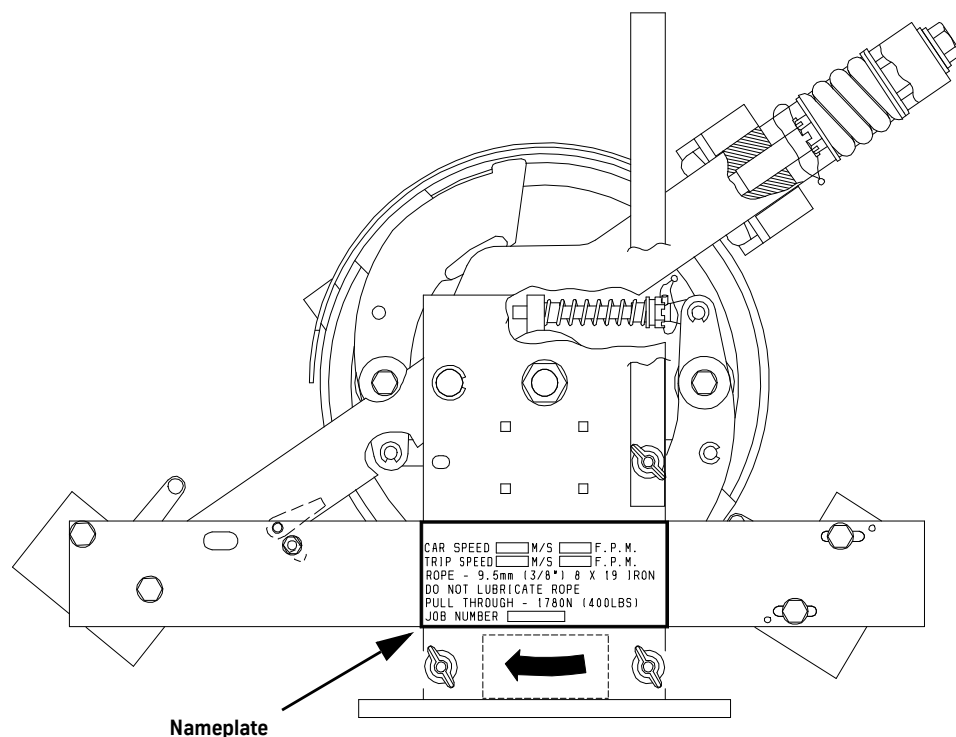

Figure 1 - Governor Nameplate
1. Check the nameplate to ensure that the governor is designed for a speed range corresponding to the job site specifications. See Figure 1.
8. Install shims under the governor base to level the base from front-to-rear and side-to-side. See Figure 1.